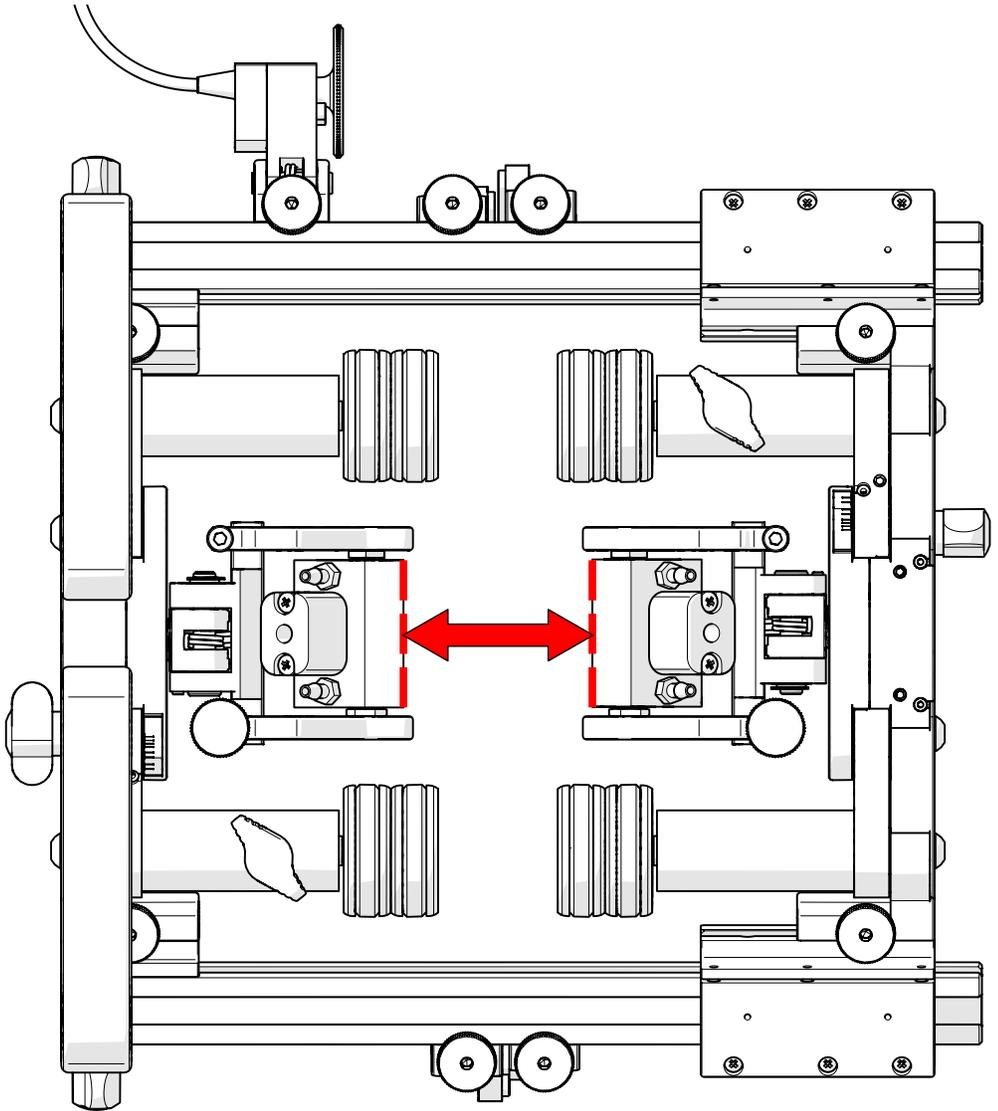

Fig. 19 - Set probe spacing and configure guides
3. When probe spacing as been completed (*Fig. 19*), position the flange scanner guides as required (*see Flange Scanner Guides on page 12*).